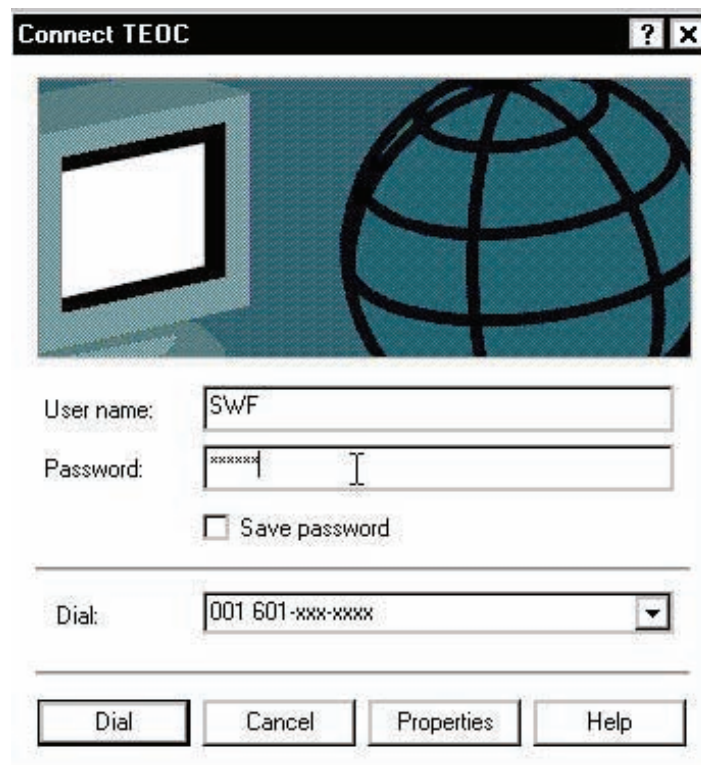

Figure 30. Entering User Name and Password
- In the “Connect TEOC” window, enter your username and password. (See Figure 30.)